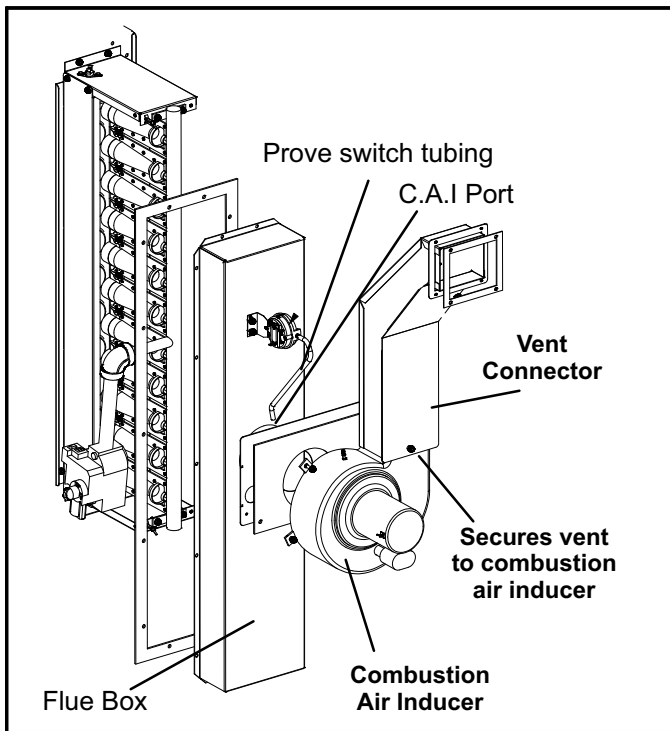

FIGURE 32
- 3- Remove and retain screws securing combustion air inducer to flue box. Remove and retain the screw securing the combustion air inducer to the vent connector. See figure 32.